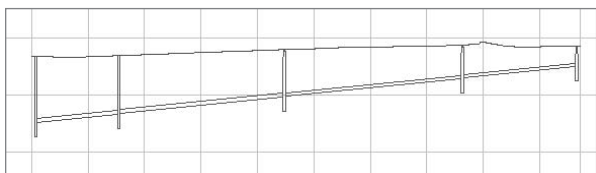

Figure 13.11
- At the **Select profile view:** prompt, select the Parker Place profile view that is to the right of the site plan. The selected pipes and structures will appear in profile view, similar to what's shown in Figure 13.11 (your profile view might look slightly different).